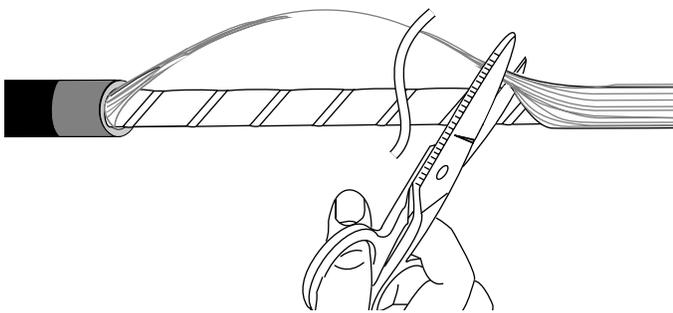

Figure 11
5.10 Cut the yarn at the 25 cm point with a pair of scissors (Figure 11). Fold the 25 cm length of yarn back out of the way.